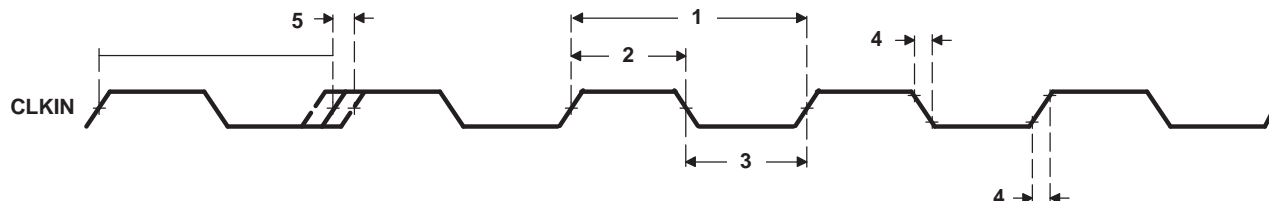

Figure 5-5. CLKIN Timing
5.1.1 Timing Requirements for CLKIN for –50xEP Devices⁽¹⁾ ⁽²⁾ ⁽³⁾ (see Figure 5-5)